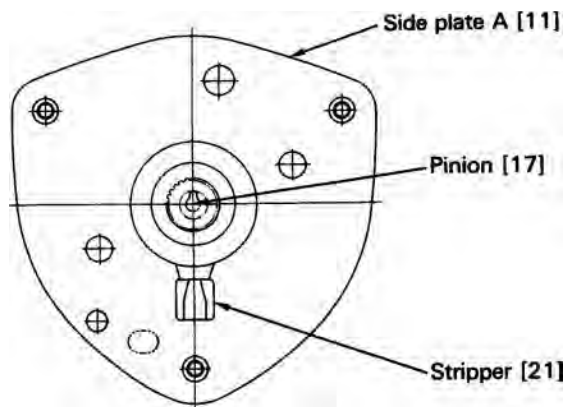

Figure 6-2 Side Plate / Load Sheave Assembly
- 3)** Insert the load sheave [14] with a part of spline side (pinion gear side) up into the ball bearing [15]. The stripper [21] must be inserted as well. See Figure 6-2.